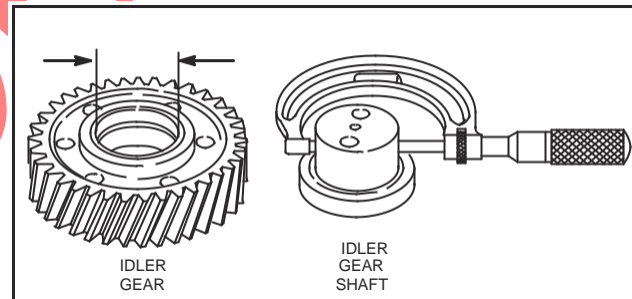

Fig. 7 – Checking Idler Gear And Shaft
2. If backlash exceeds 0.2 mm (.008") check idler gear bearing and shaft for wear, Fig. 7.